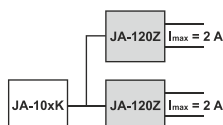

Figure 1: Boosting the bus output current for up to 2 A by each JA-120Z unit
- Providing sufficient current for connected devices when the control panel output current is not enough, see Figure 1.